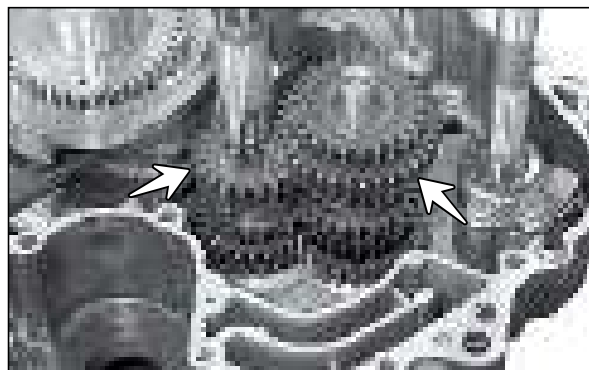

Fig. 3.155
- Take out drive shaft assembly and the counter (clutch) shaft assembly along with the gears as a set. (Fig. 3.155)